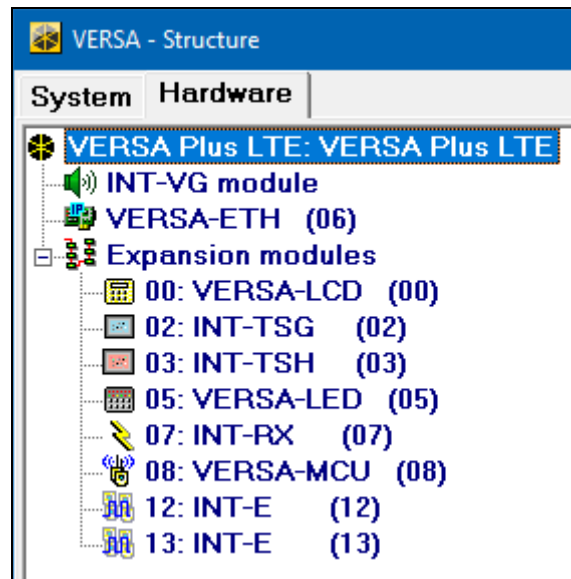

Fig. 12. DLOADX program: List of devices connected to the control panel, displayed in the “Hardware” tab, “VERSA – Structure” window.
- DLOADX program: “VERSA – Structure” window →“Hardware” tab. The list of devices is presented in the form of tree structure on the left side of the window (Fig. 12). Click on the name of device you want to configure.